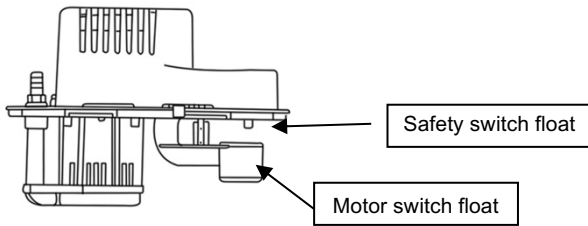

Figure 6
2. Be sure the floats move freely. Clean as necessary (Figure 6).
3. Test the motor switch by raising the motor switch float with a finger (Figure 6). The motor should turn on just before the float contact cover.